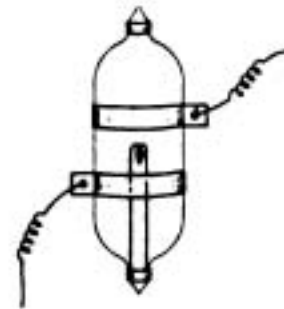

Fig. 1.
"AMATEUR" (Stoneyhurst) asks (1) If a home-made valve of type as sketched (Fig. 1) will be efficient. (2) The anode voltage required. (3) Resistance telephones required. (4) If it could be used with a single valve frame aerial set.
(1) Fairly good results have been obtained, especially in America, with valves of this type, but they are not very efficient. We believe, moreover,